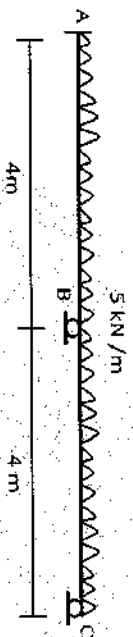

Figure 5
- B) Analyse the Continuous beam ABC having support A as Fixed and other are rollers as shown in figure 5. Assume that supports are unyielding. EI is constant for all members. Use Stiffness method for analysis.